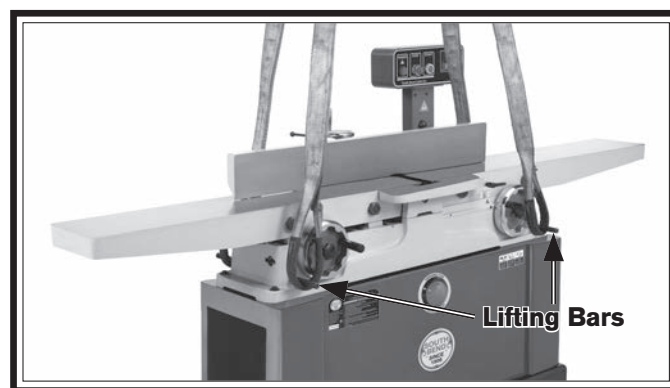

Figure 14. Example of jointer supported evenly at lifting bars by lifting straps.
7. Wrap lifting straps around lifting bars, as shown in **Figure 14**.